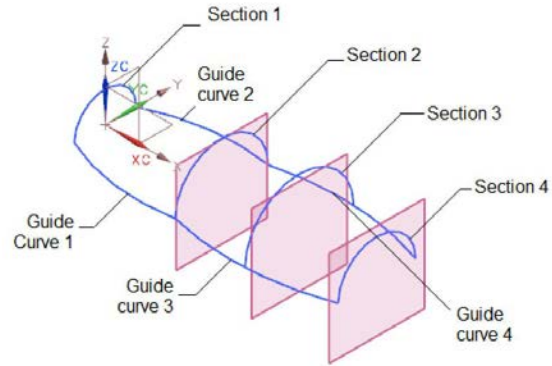
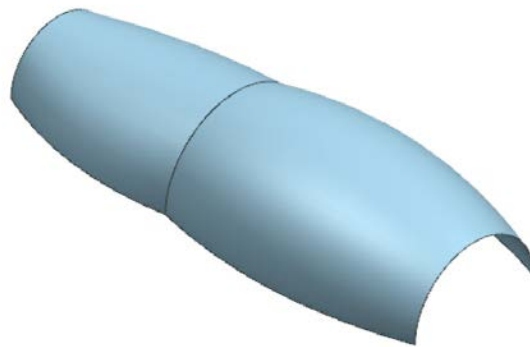
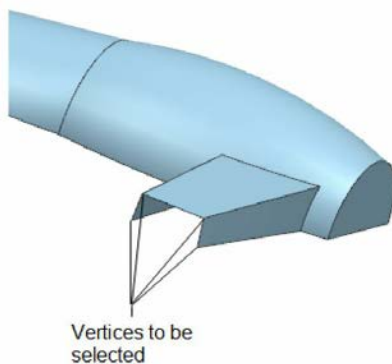
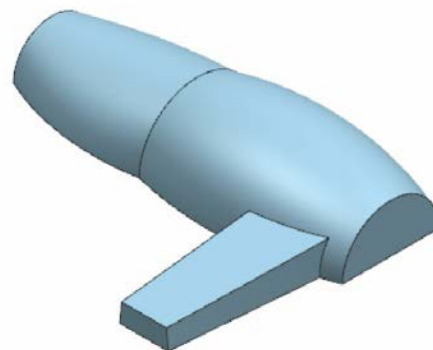

Figure 11-91 Sections and guide curves to create the studio surface
Figure 11-92 Resultant studio surface
Figure 11-101 Vertices to be selected
Figure 11-102 Model after closing the front face of the handle
- Create a four point surface to close the front face of the handle, refer to Figures 11-101 and 11-102.
6. Select Section 1, refer to Figure 11-91, and then press the middle mouse
7. Select Section 2, refer to Figure 11-91, and then choose the **Guide (Cross) Curves** button from the **Guide (Cross) Curves** rollout; you are prompted to select a guide string. Note that you may need to choose the **Reverse Direction** button, if required.
8. Select the Guide Curve 1, refer to Figure 11-91, and then press the middle mouse button; you are prompted to select a guide string again.
9. Select the Guide Curve 2, refer to Figure 11-91. The preview of the studio surface after selecting the sections and the guide curves is shown in Figure 11-102. Next, choose the **Apply** button from the **Studio Surface** dialog box.
10. Select the Section 2, refer to Figure 11-91, and then press the middle mouse button; you are prompted to select a section again.
11. Select the Section 3, refer to Figure 11-91, and then press the middle mouse button; you are prompted to select a section again.
12. Select the Section 4, refer to Figure 11-91, and then choose the **Guide (Cross) Curves** button from the **Guide (Cross) Curves** rollout; you are prompted to select a guide string.
13. Select the Guide Curve 3, refer to Figure 11-91, and then press the middle mouse button; you are prompted to select a guide string again.
14. Select the Guide Curve 4, refer to Figure 11-91. A preview of the studio surface after selecting the sections and the guide curves is shown in Figure 11-92. Next, choose the **OK** button to create the studio surface.
2. Select the vertices on the front face of the handle, refer to Figure 11-101, and then choose the **OK** button; the planar surface is created. The model after closing the front face of the handle is shown in Figure 11-102.